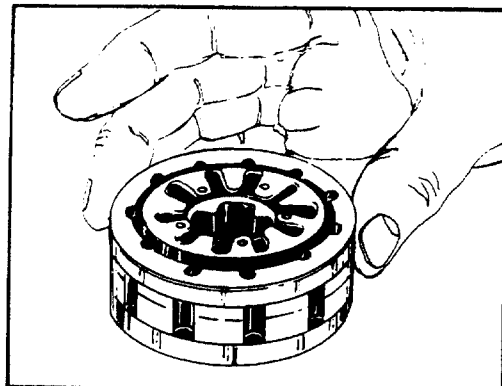

FIGURE 60.
15. Place commutator ring (21) either side up on top of stator (25). Align commutator ring screw recesses with stator screw slots. See figure 60.